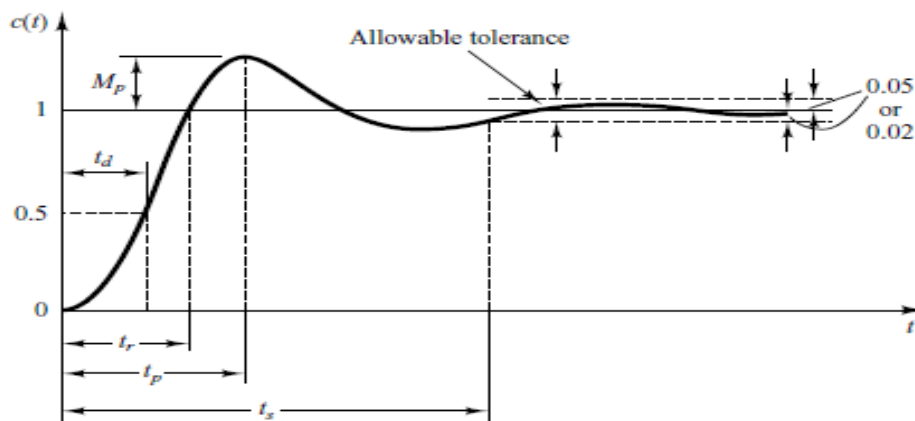

Figure 3: A unit-step response curve
(10) Control systems must be designed to be stable, explain the stability criteria of a system.
(11) Figure 3 below shows the transient response curve of a practical control system.